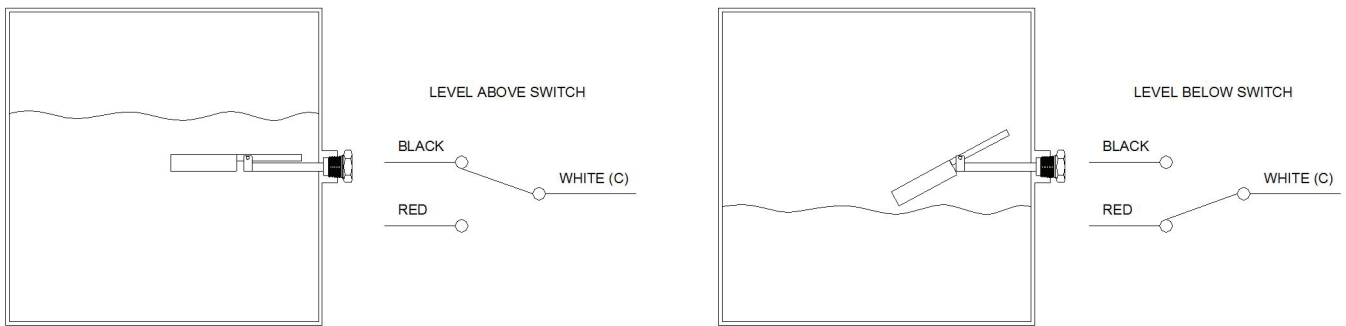

Figure 5
2. Connect the field wires to wiring harness of the MS8F according to the application. Reference **Figure 5** for proper orientation of contacts. Be sure to adequately insulate all electrical connections.